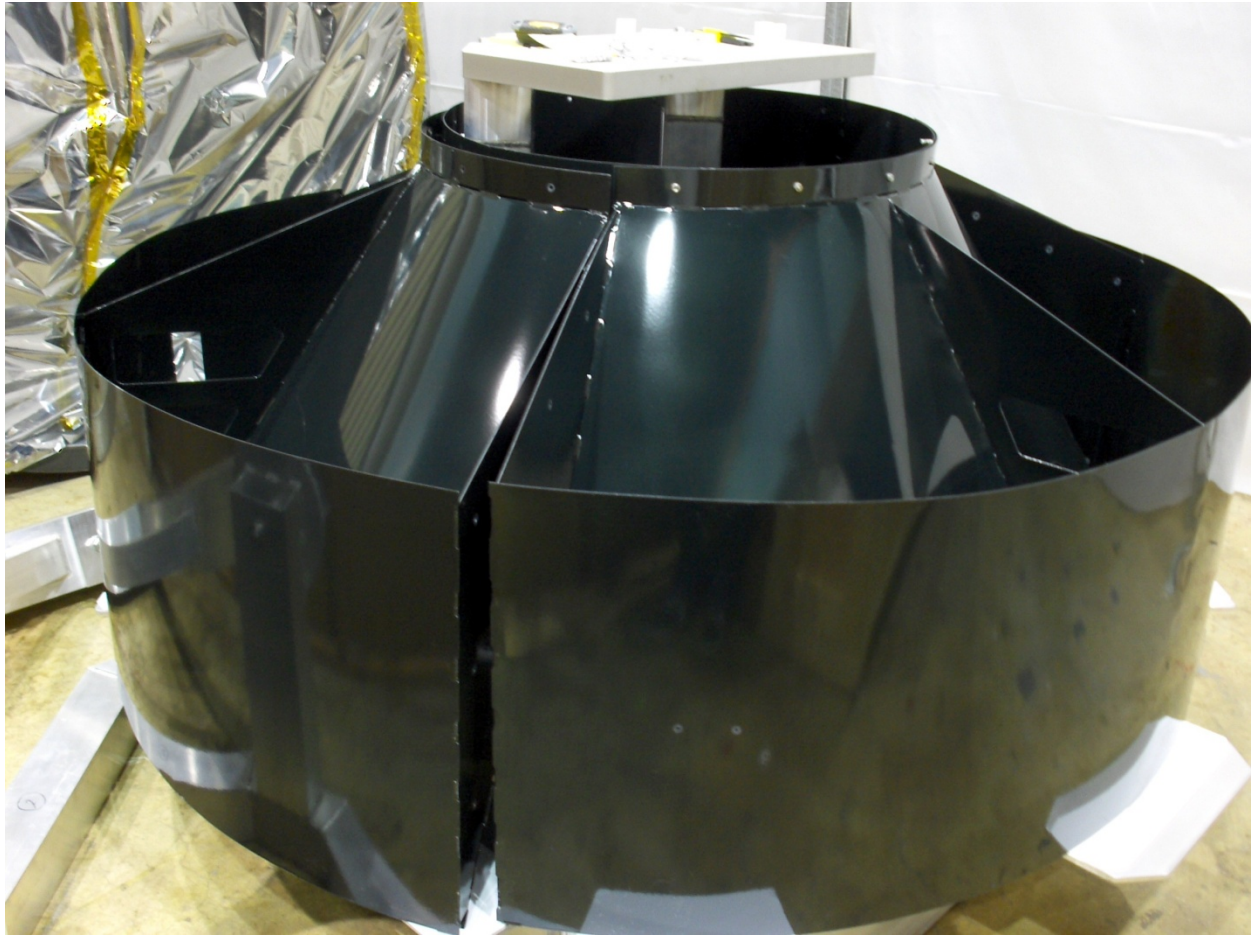

Figure 8: Baffle in Horizontal Orientation during Assembly
- Arrange the left and right weldments (D0902655 & D0902654) loosely on the lift fixture around the center cylinder. Install threaded adapters, washer and nut to baffle bracket as previously mentioned. Repeat this process for adding the additional section (D0902656) see Figure 8.